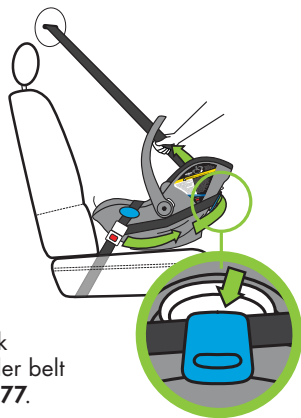

Figure 77
- With one hand firmly holding the shoulder belt so it doesn't retract, wrap the shoulder belt around the back of the Carrier with the other hand, and tuck the shoulder belt into the blue Shoulder Belt Guide, as shown in **Figure 77**.